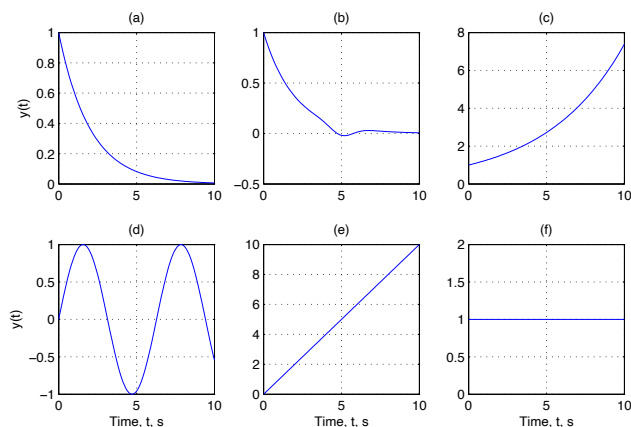

Figure 2: Figures for the Prelab Part 1.
- Figure 2 plots the zero-input (i.e.,  $u(t) = 0$ ) time-response of various different systems. For each: